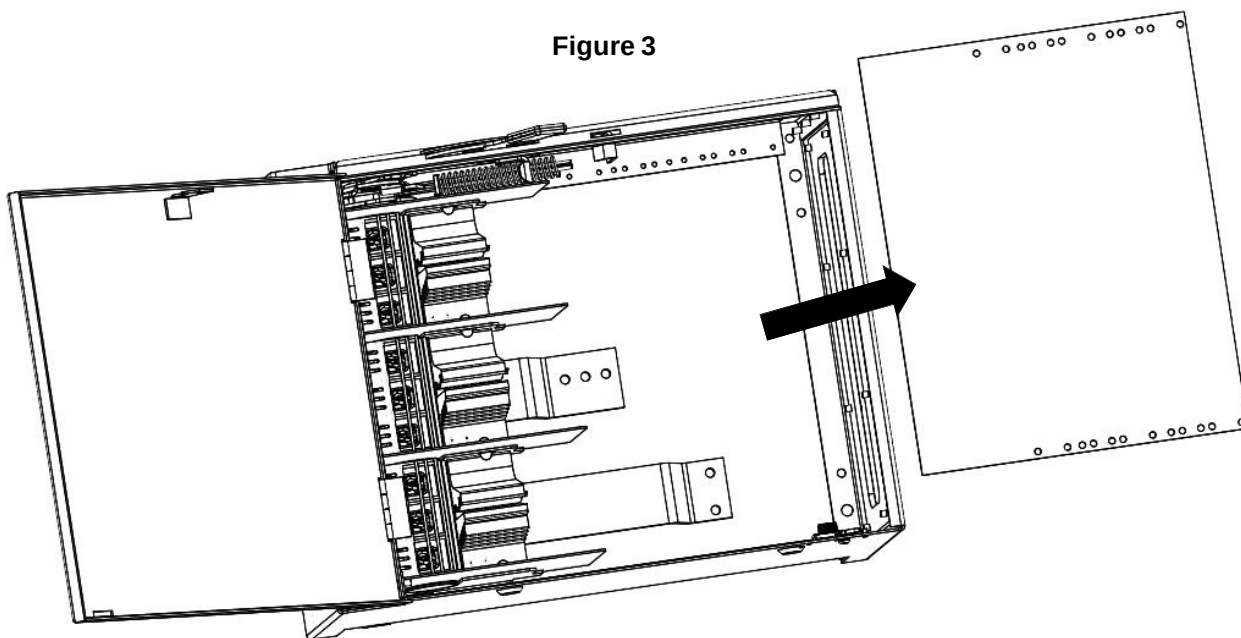

Figure 4
4. Remove bottom barrier and set aside, as shown in Fig 4. Do not discard.